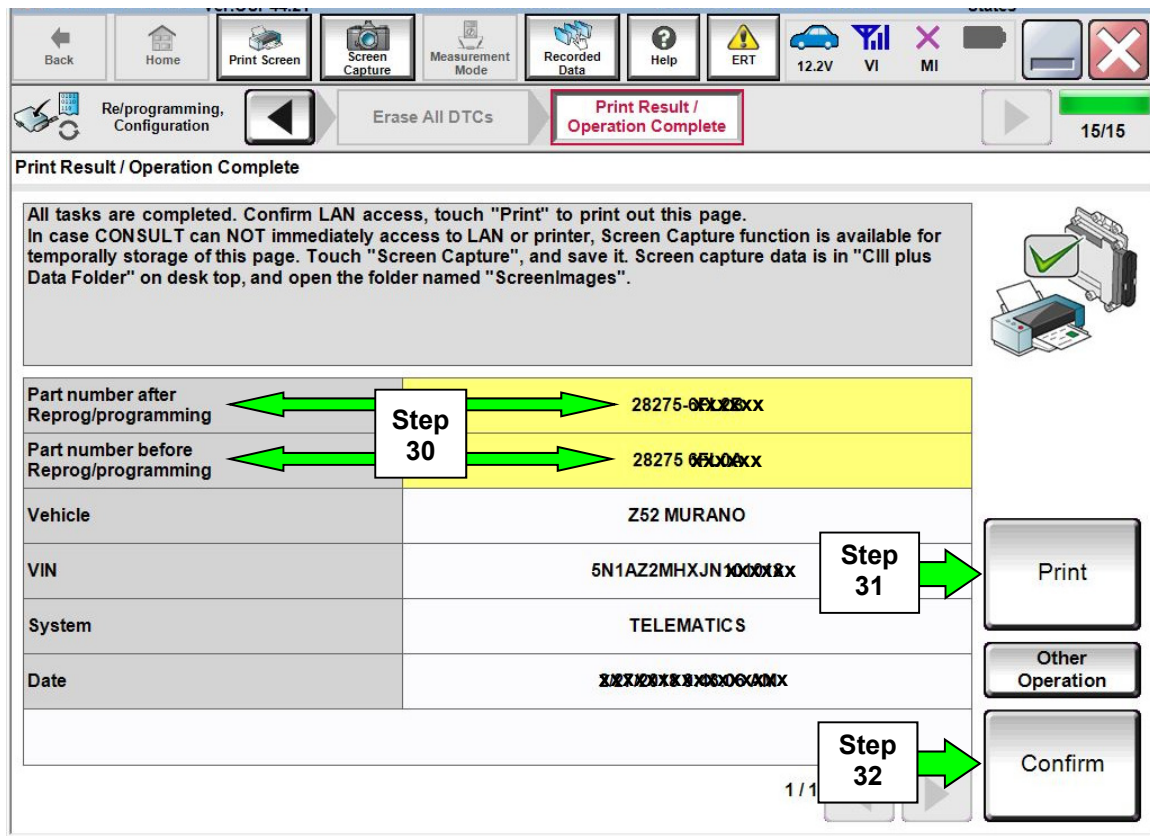

Figure 22
29. When the entire reprogramming process is complete, the screen in Figure 22 will display.
31. Print a copy of this screen (Figure 22) and attach it to the repair order for warranty documentation.